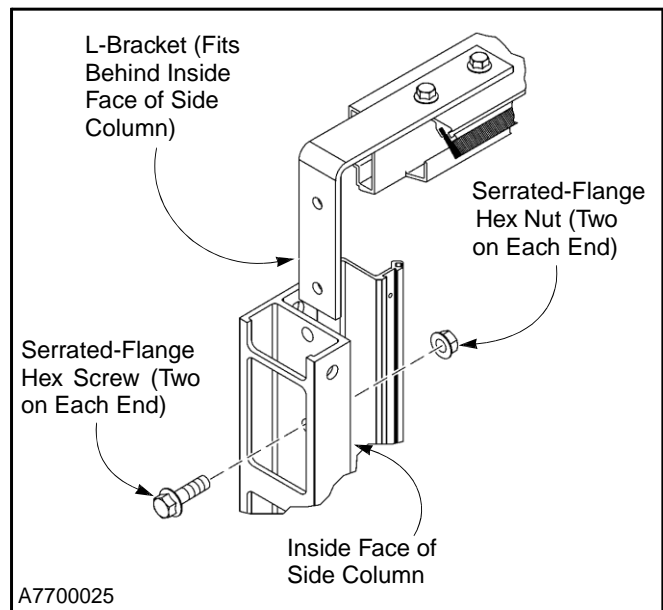

Figure 15
- Attach the spreader assembly to the inside face of each side column using two 3/8-16 x 1 1/4-in. serrated-flange hex screws and nuts at each end of the assembly. Face the spreader so the brush is toward the front of the door. (See Figure 15.)